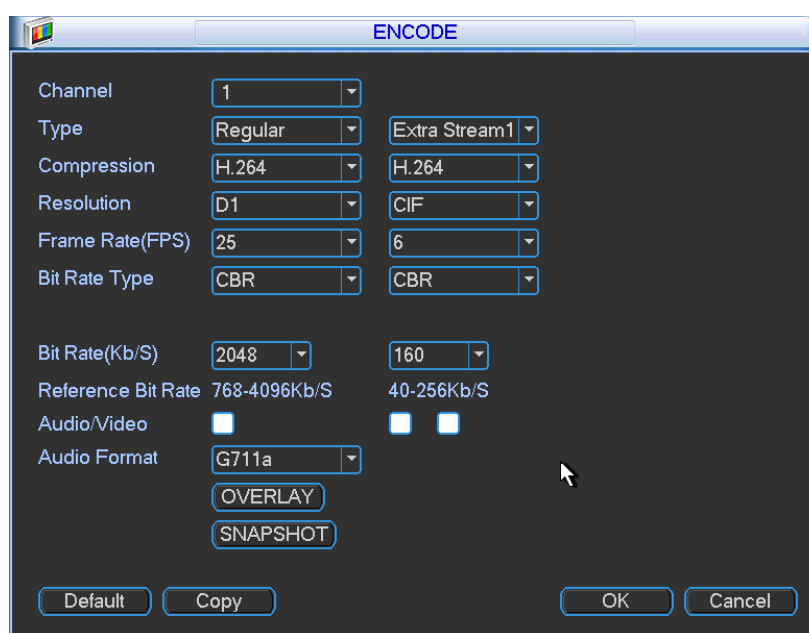
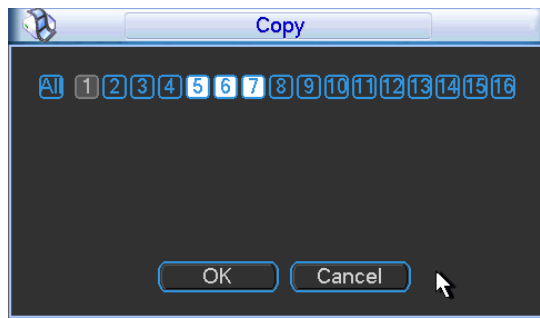
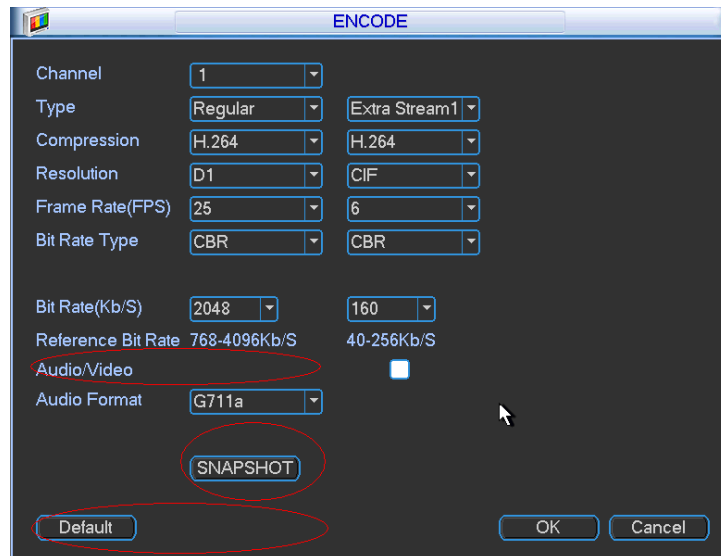

Figure 5-8
Figure 5-10
Figure 5-11
Encode setting includes the following items. See Figure 5-8.
- ❖ Copy: After you complete the setup, you can click Copy button to copy current setup to other channel(s). You can see an interface is shown as in Figure 5-10. You can see current channel number is grey. Please check the number to select the channel or you can check the box ALL. Please click the OK button in Figure 5-10 and Figure 5-8 respectively to complete the setup. Please note, once you check the All box, you set same encode setup for all channels. Audio/video enable box, overlay button and the copy button is shield. See Figure 5-11.